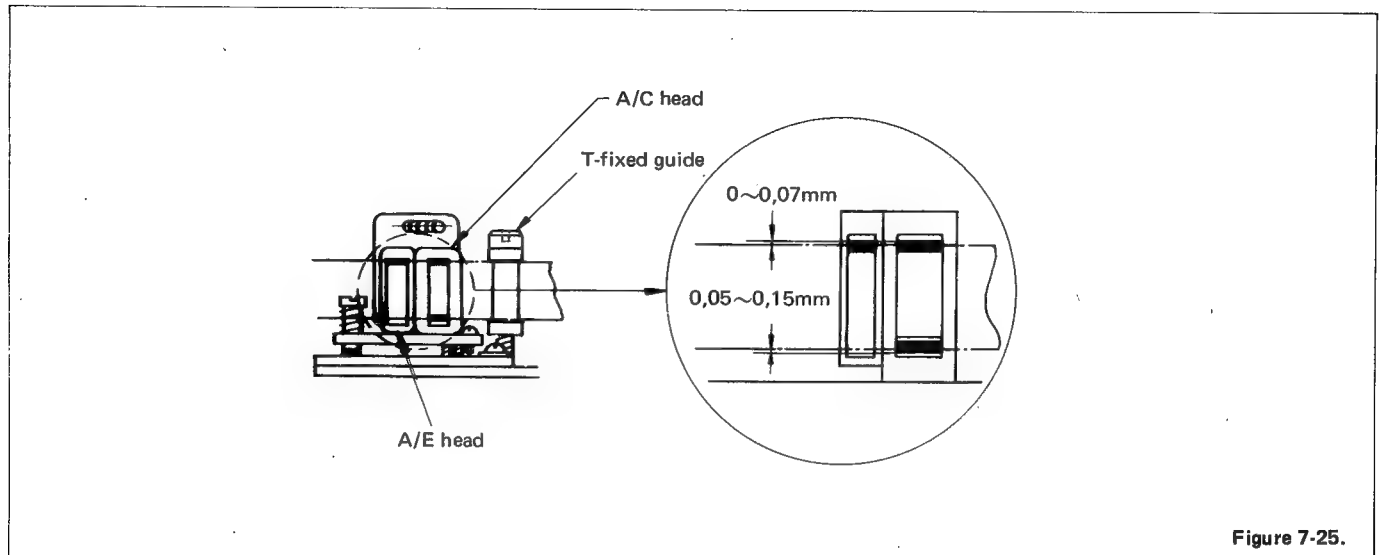

Figure 7-25.
- 3) Check that the height and tilt of the A/C head are just as shown in Figure 7-25 in relation to the tape.
- 5) Check that the height of the A/C head is as shown in Figure 7-25 in relation to the tape.